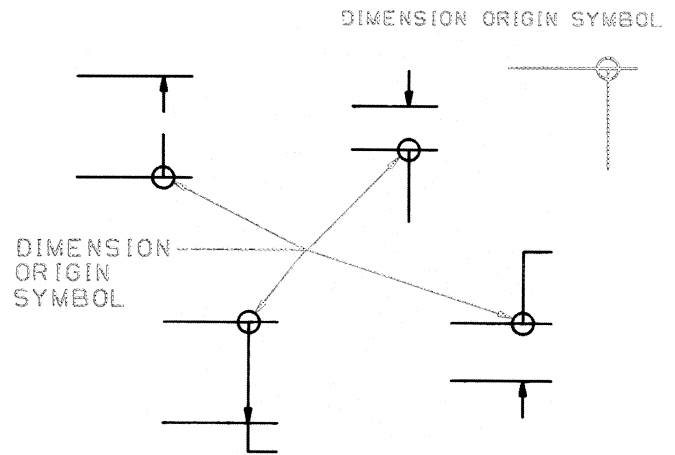

FIGURE 15.55 Dimension Origin Symbol
- ✎ The symbol to indicate a toleranced dimension between two features originates from one of these features (Fig. 15.55).